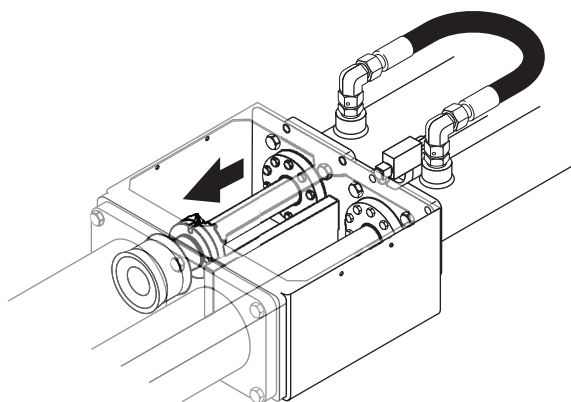

Figure 24
8. Restart the engine and clear all E-stops. Press the concrete pump forward or reverse button and ram change mode button simultaneously to slowly extend the cylinder rod until it just contacts the rubber ram flange (Figure 24). Release the concrete pump forward/reverse or ram change button to stop the differential cylinders. Shut off the engine.